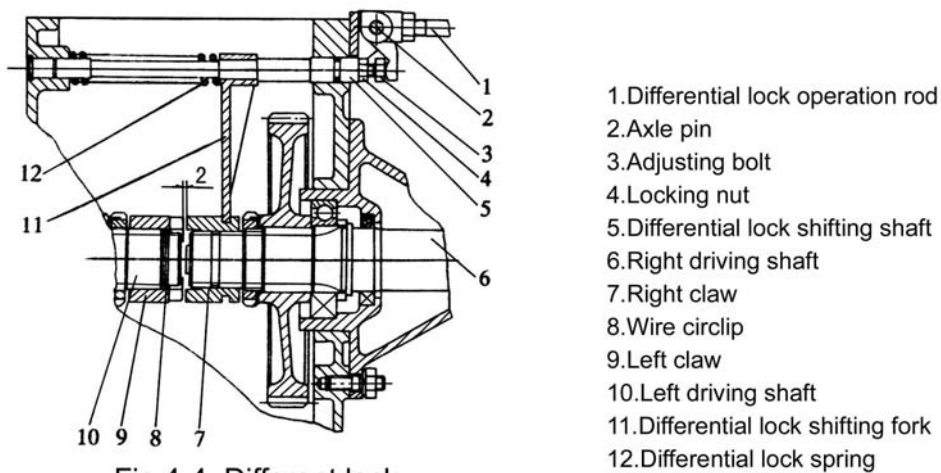

Fig.4-4 Different lock
The differential lock can be adjusted through bolt (3) and nut (4). During adjusting, the gap between left claw (9) and right claw (7) should be about 2mm. Screw in or out the bolt (3) to increase or reduce the gap. After the adjustment has been done, use nut (4) to tighten bolt (3). (Fig.4-4)